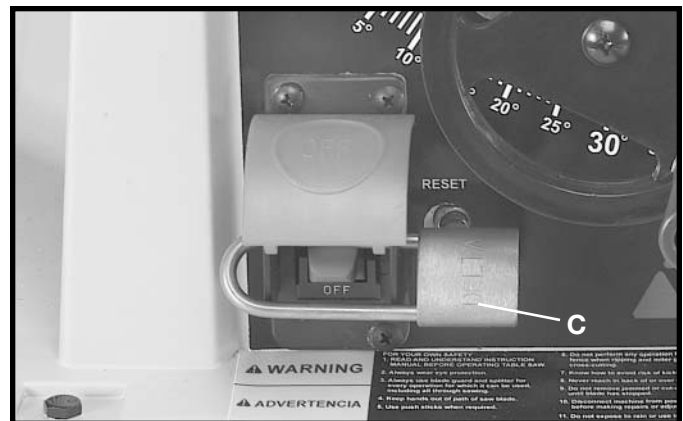

Fig. 43
IMPORTANT: When the tool is not in use, the switch should be locked in the OFF position using a padlock (C) Fig. 43, with a 3/16" diameter shackle to prevent unauthorized use.